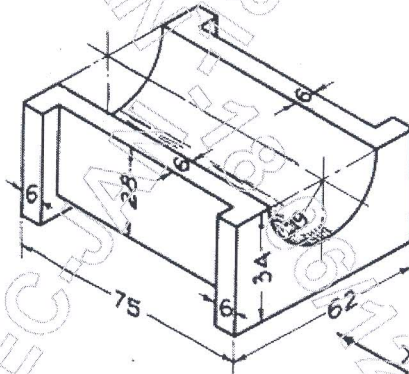

Figure.1
- Q.No.1** Following Figure.1 Shows a Machine Component. Draw a) Front View b) Top View